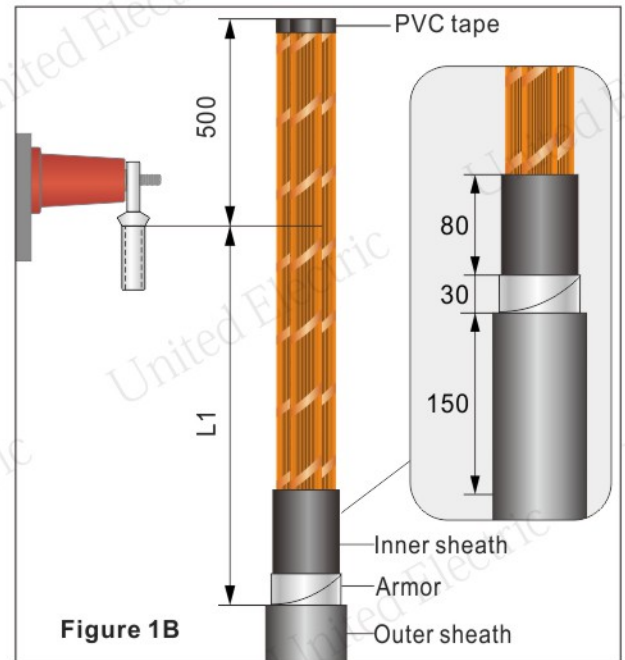

Figure 1B
- Remove the filler material from the cores. Cut the cable armor to 30mm and inner sheath to 80mm. Wrap the end of copper wire with PVC tape. Clean and degrease the end of the cable sheath for about 150mm as shown in figure 1B.